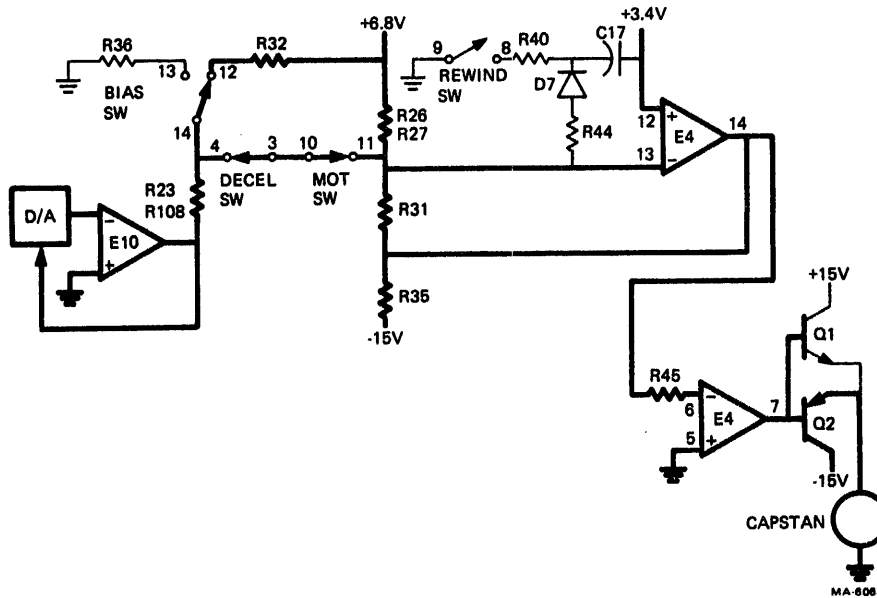

Figure 6-17 Forward - Capstan Drive
6.5.3.3.2 Forward (Figure 6-17) – When the capstan rotates forward the REWIND SW is open. The BIAS SW is closed, pin 12 to 14. The MOT SW was closed by CS5 MOT 1, and the DECEL SW is closed (operation of the DECEL SW is described below). The signal at the inverting input (pin 13) to E4 is now